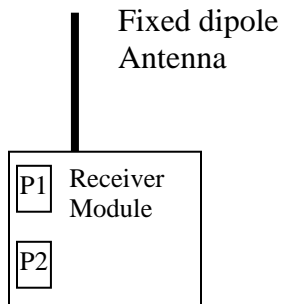

Figure 1: Receiver Module
The TCER is interfaced with equipment through the two multi-pin connectors designated as P1 and P2. In order to allow proper operation of the Receiver module, the antenna is permanently attached to the Receiver module and its orientation is shown below in Figure 1. The Receiver module gets mounted high on the equipment with the antenna away from metallic objects allowing visibility to desired operator use locations. A preconfigured mounting location is present on the Remote capable equipment and the equipment control wires will only connect at that location.
- 2) Mount the Receiver module using the 2 machine screws to the designated mounting location on the power equipment. The antenna faces up as shown in Figure 1 above.